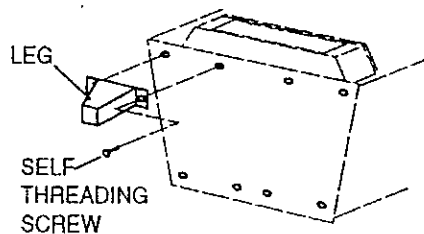

Fig. 2
4. Mount the four legs (leg covers towards front of heater) using the (8) 1/4-20 self-threading screws provided, with an adjustable or 3/8" wrench. (Fig. 2)